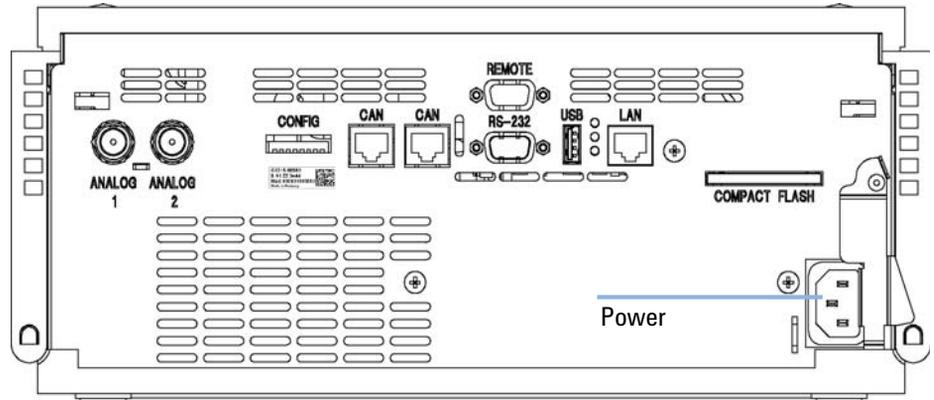

Figure 9 Rear View of Detector
- 1 Note the MAC address of the LAN interface (rear of the module, under the configuration switch, see Figure 9 on page 49). It's required for “LAN Configuration” on page 261.